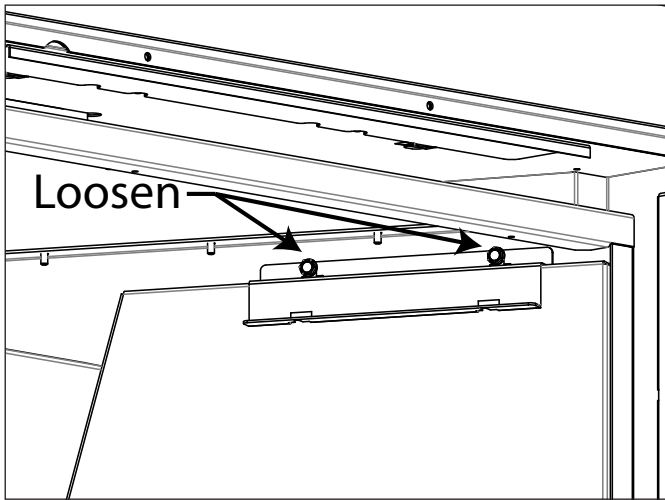

Figure 18: Liner Retainer Removal
4. The components can be accessed behind the right liner panel. Loosen the two (2) bolts on the right liner retainer using a 5/16" socket until it can be removed. See Figure 18.